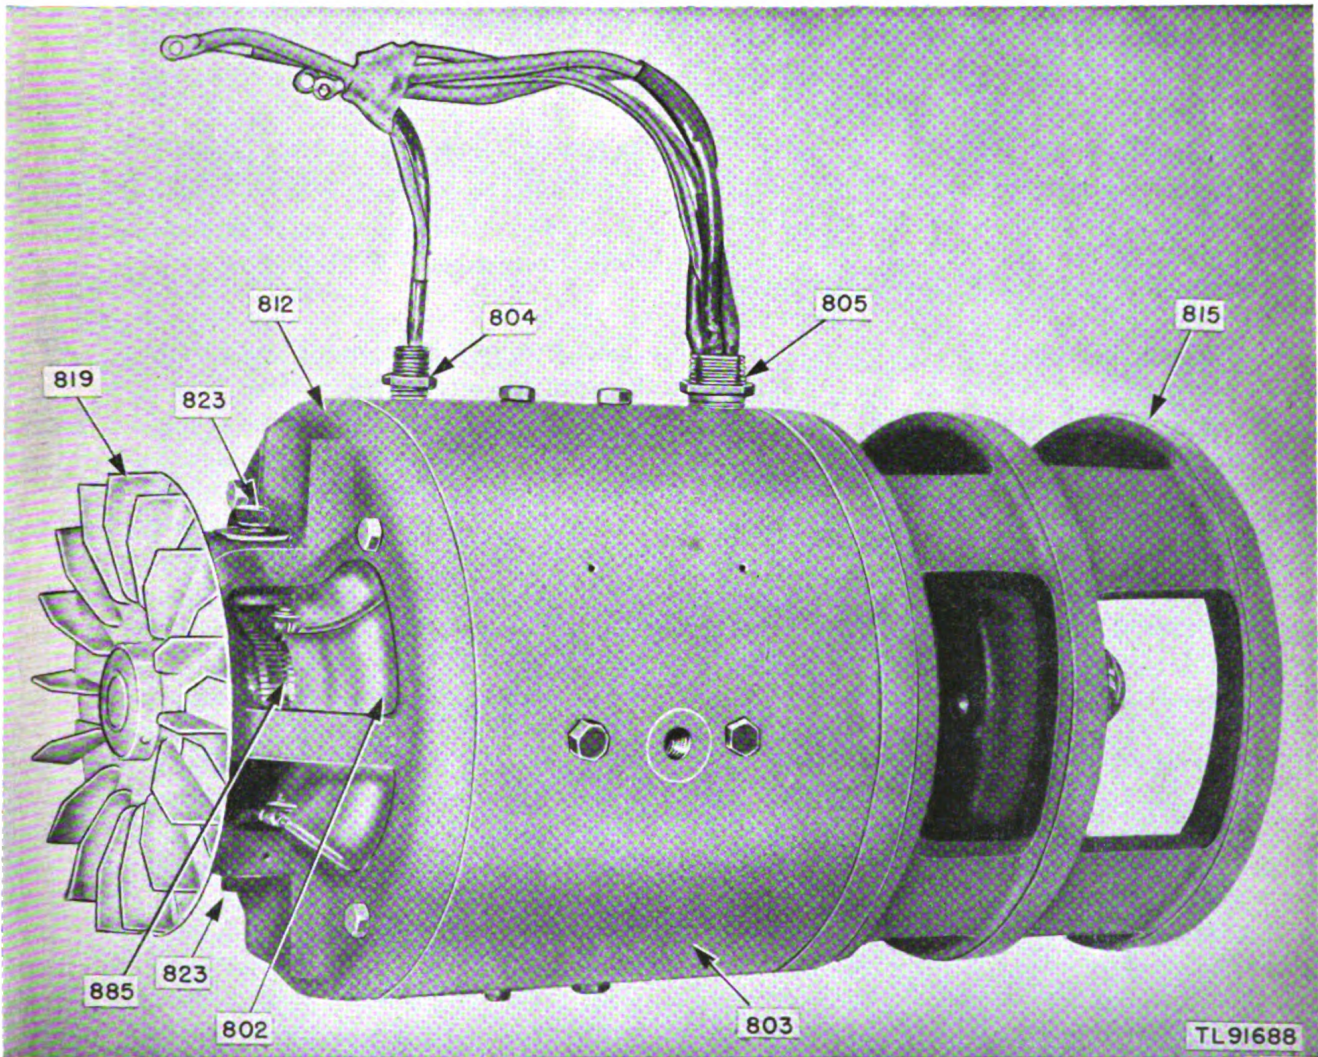

Figure 52. Generator GN-39-G, high-voltage end cover removed.
(5) Hand brush the six generator leads, taking care not to varnish connecting lugs. (See fig. 52.)
f. REASSEMBLY. (1) Remove all masking tape.
F, and GN-39-G are very much alike in external appearance (figs. 52 and 53) and very similar in their characteristics and functions. All are self-excited, drip-proof, semi-enclosed units. All have two armature windings; one normally rated at 1,000 volts at 0.350 amperes, the other at 14.6 volts at 25 amperes. Two interpoles with high- and low-voltage windings are provided to insure good commutation.